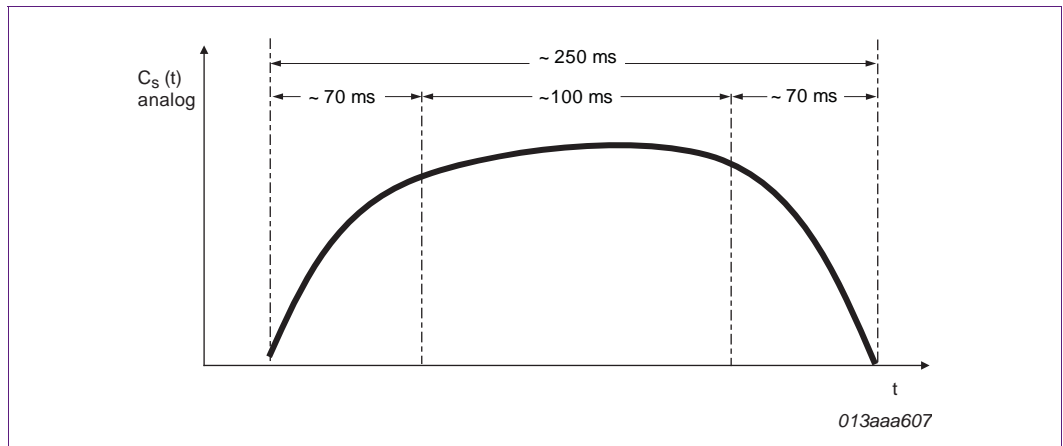

Fig 3. Typical human touch on push button
A typical human touch in push-button applications has approximately the course shown in Figure 3. A sampling frequency about 1 kHz is recommended as a start value for optimizing the approach sensitivity.
- Fig 3. Typical human touch on push button6